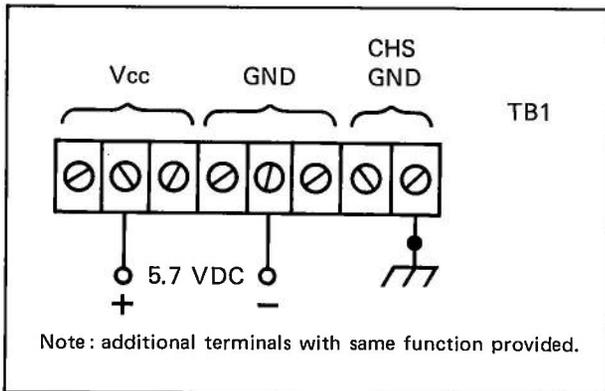

Figure 9 – Distribution Panel, TB1
Step 15 – Energize the system and measure the voltage between terminals 1 (Vcc) and 4 (GND) on TB1 of the Distribution Panel. (See Figure 9.) Terminal 1 should be positive with respect to terminal 4.